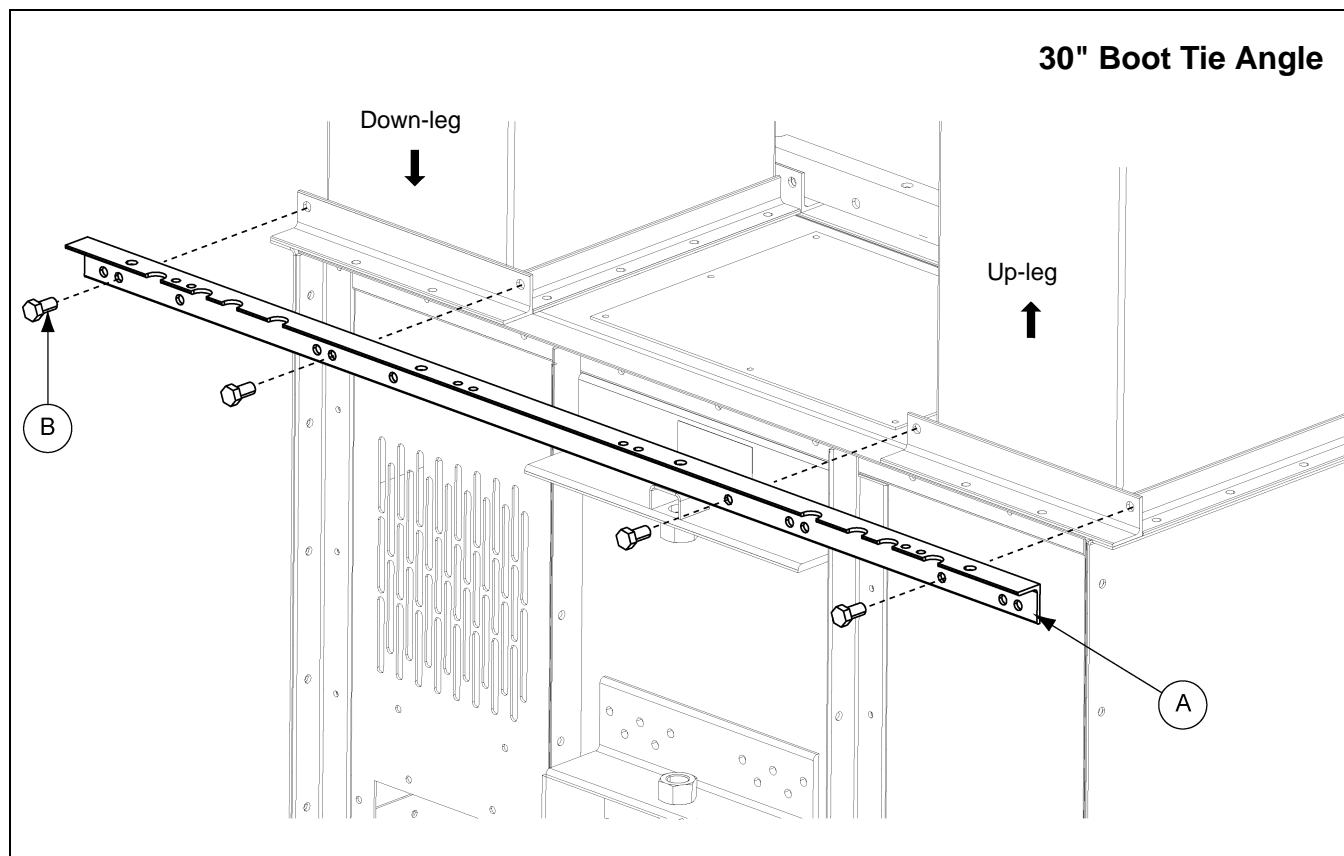
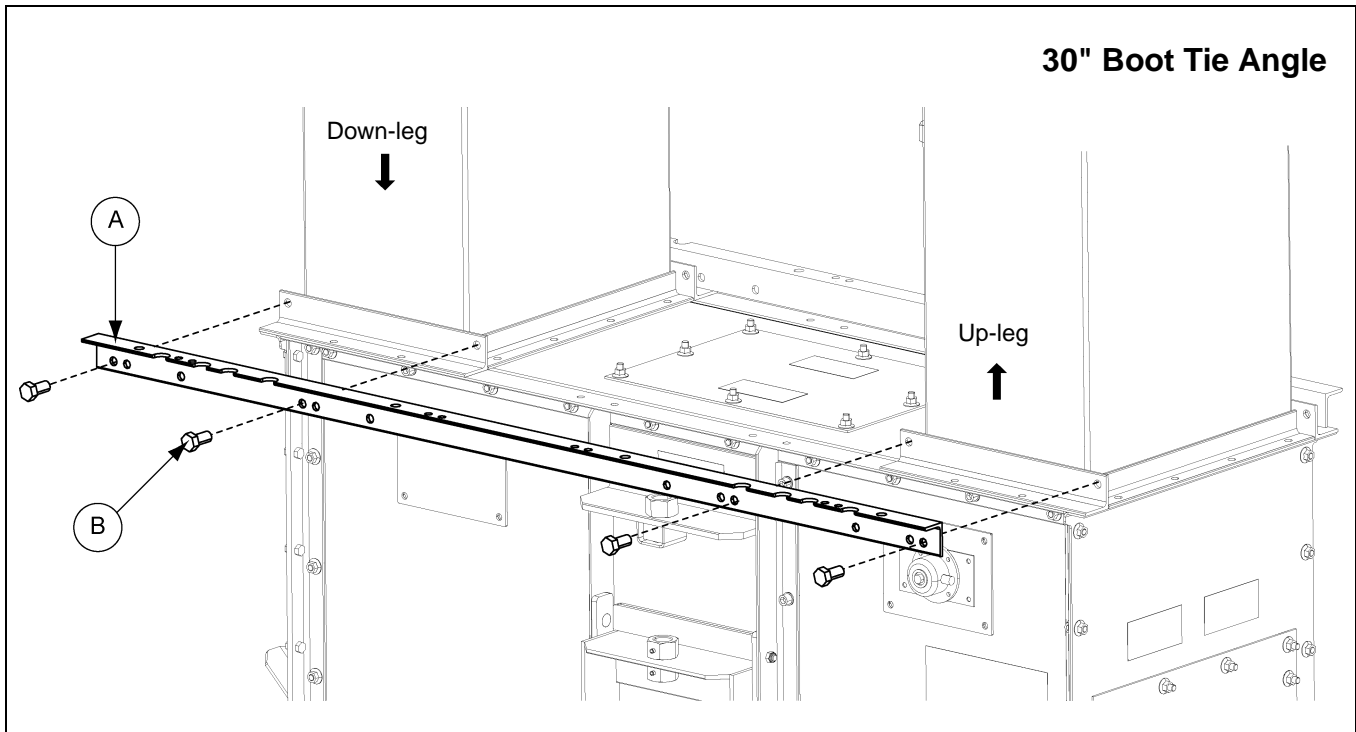

Figure 6A 30" Boot Tie Angle
Figure 6B 36" Boot Tie Angle
(See Figure 6A below and Figure 6B on Page 19.)
- a. **For 30" Boot Tie Angle:** With lip of tie angle up and outward, align tie angle so that it extends beyond the trunking at each end. (See Figure 6A.).
- b. **For 36" Boot Tie Angle:** With lip of tie angle up and outward, align both edges of tie angle to edges of trunking. Note the tie angle will not extend beyond the trunking. (See Figure 6B.)